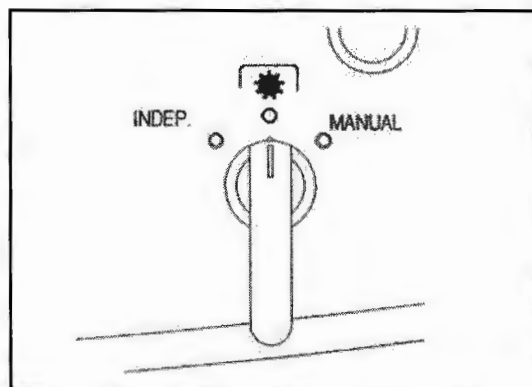

Fig. 12-2 - Independent Electro-Hydraulic PTO Switch
This switch (1) uses the following positions to control the PTO. (See Fig. 12-2).